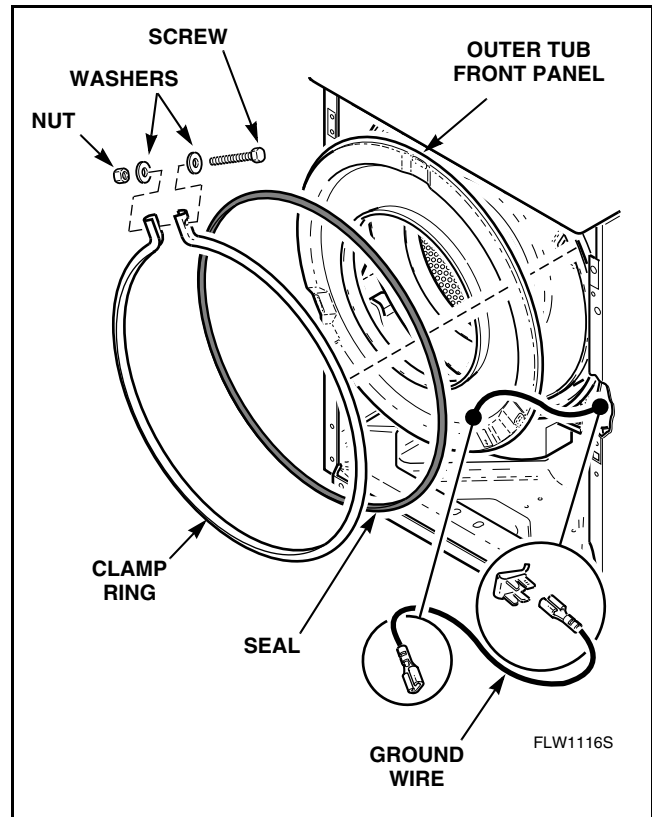

Figure 68
- n. Disconnect ground wire from outer tub front panel. Refer to *Figure 68*.
- o. Remove nut, washers and screw holding clamp ring to outer tub front panel. Refer to *Figure 68*.
- Disconnect ground wire from outer tub front panel. Refer to *Figure 68*.
- Remove nut, washers and screw holding clamp ring to outer tub front panel. Refer to *Figure 68*.